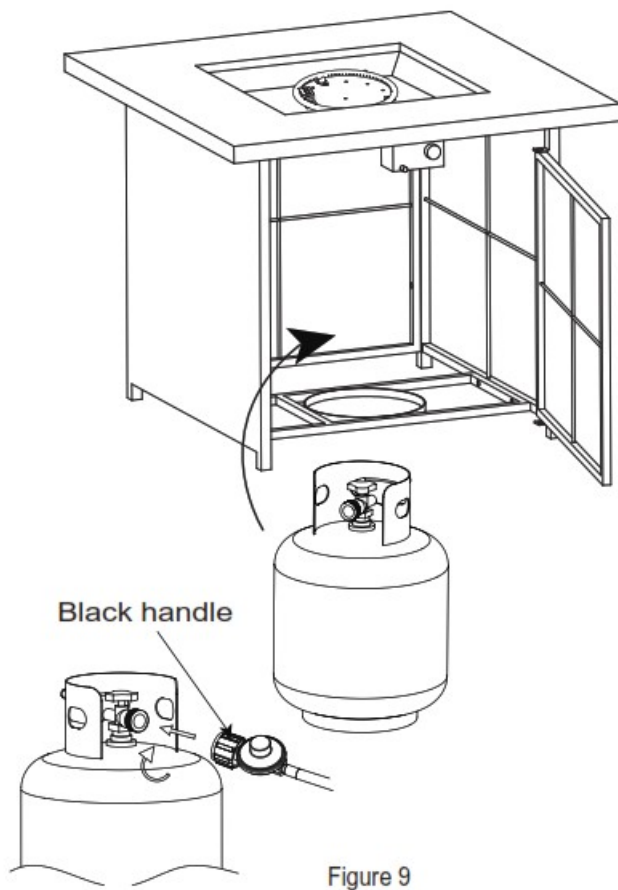
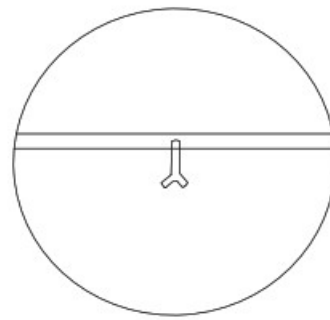
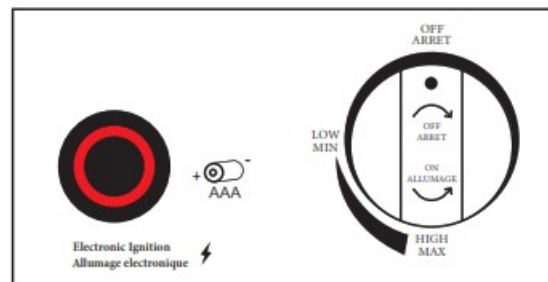

Figure 9
Figure 10
Figure 11
STEP 7: Place the gas cylinder into the cylinder holder (figure 9), secure the cylinder by tightening clockwise the bolt (figure 10) found on the cylinder holder, so the cylinder cannot move from side to side or fall down. The knob on the control panel is turned all the way to the "OFF" position (figure 11) when the fire pit is not in use.